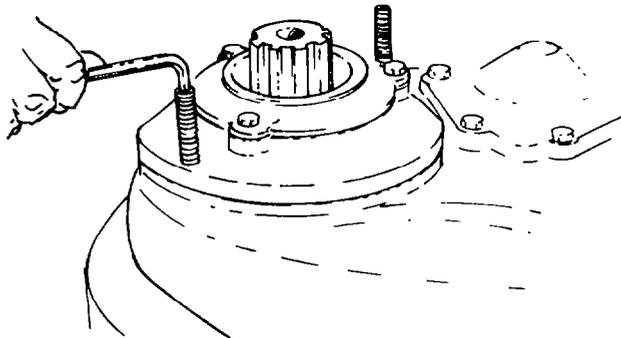

Fig. 226 — Removing Retainer Assembly
- r. Remove the rear drive shaft bearing retainer bolts and remove the bearing retainer. Install puller bolts in the holes provided in the retainer and remove the retainer assembly from the case by applying pressure evenly and alternately to these bolts (see fig. 226).